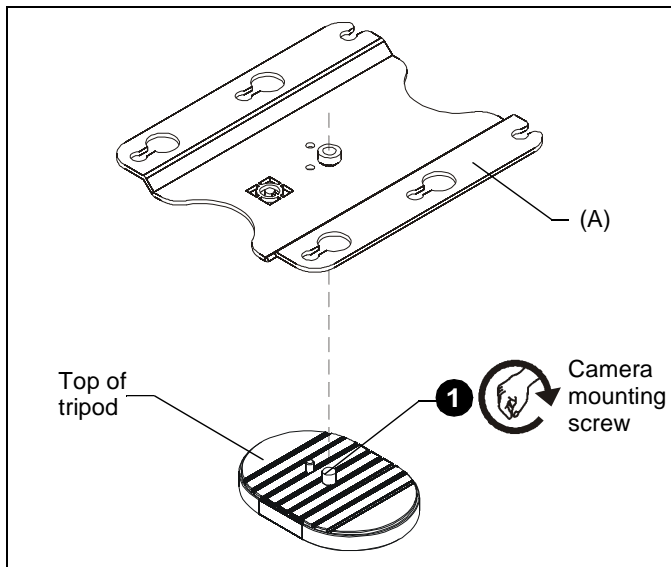

Figure 1
1. Place TMA100 (A) upright on top of tripod and tighten camera mounting screw located on tripod into TMA100. (See Figure 1)